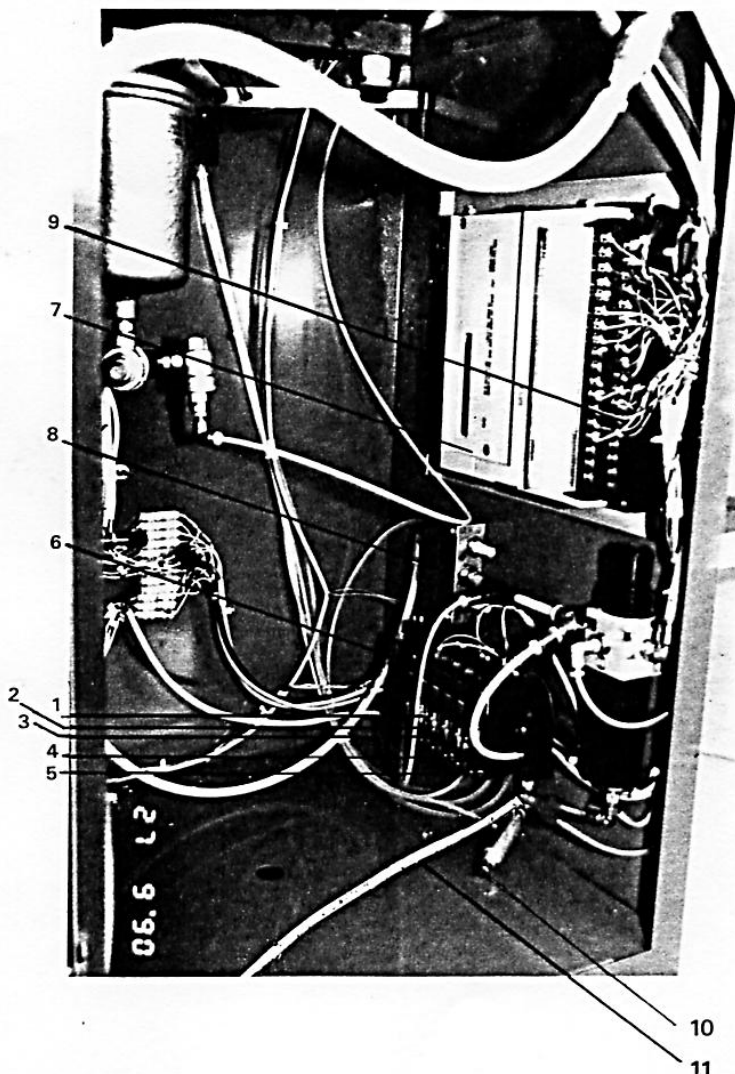

FIGURE 2
- 3) Remove the tube of lubricant attached to the jack inside the machine (Fig 2).
## III - CONNECTING THE MACHINE (Figure 2)
- d) Attach the purge pipe after the compressed air pipe crossing the metal partition through the aperture on the side, so that the air purge is performed outside the machine. (Rep 11 - fig 2).